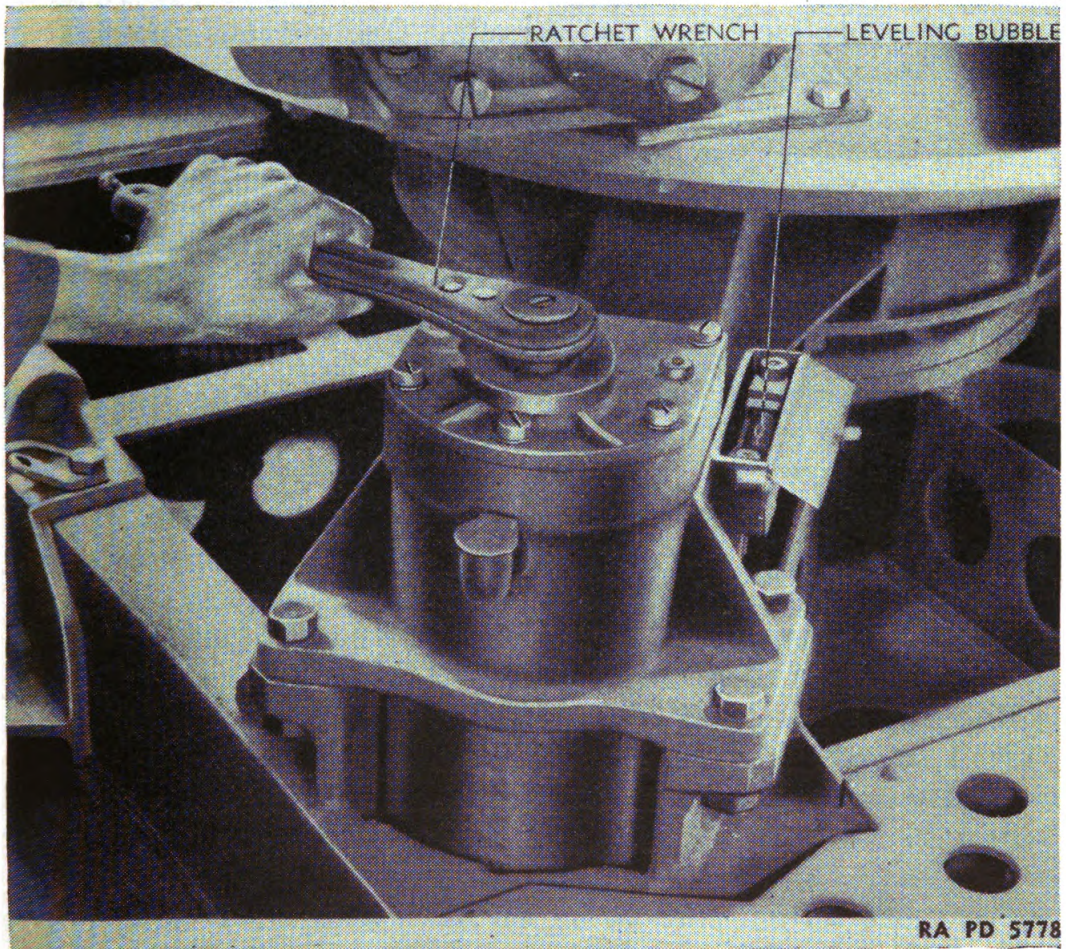

FIGURE 42.—Leveling top carriage of M3A1 carriage.
*h. Leveling top carriage.*—Uncover the two leveling vials and level the top carriage by means of the two leveling handwheels on the M3 and M3E1 carriage or the two ratchet wrenches on the M3A1 carriage (fig. 42). During firing, care should be taken not to move the leveling mechanisms and disturb the level condition of the top carriage. This is important, since no locking devices are on the leveling mechanisms.
*i. Assembly of cartridge tray to gun.*—(1) Depress the levers on each side of the cartridge tray.
(2) Slide the tray down over its brackets on the left side of the gun far enough to let the latches snap into the holes of the brackets.